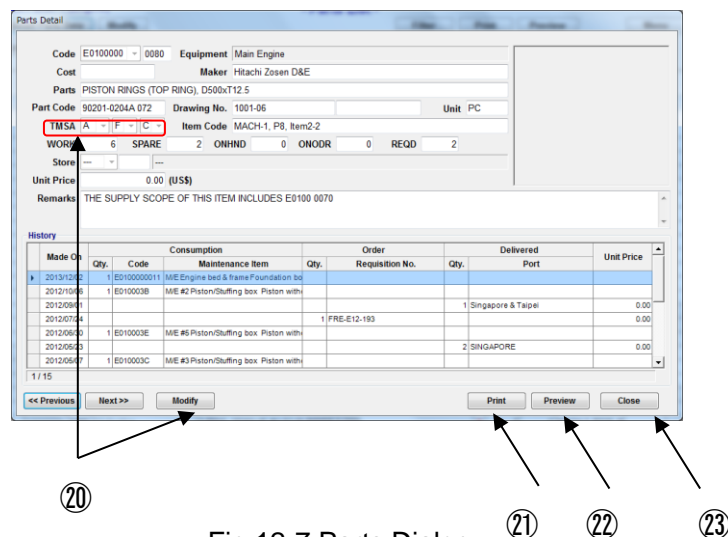

Fig.12-7 Parts Dialog
(19) Select item and [detail], Parts Dialog(Fig.12-7) is displayed.
(20) If you want to modify, select [Modify], only SMS category can be changed.
(21) If you want to print, Select [Print] Button.
(22) If you want to see preview, select [Preview].
(23) If you want to close a screen, Select [Close].